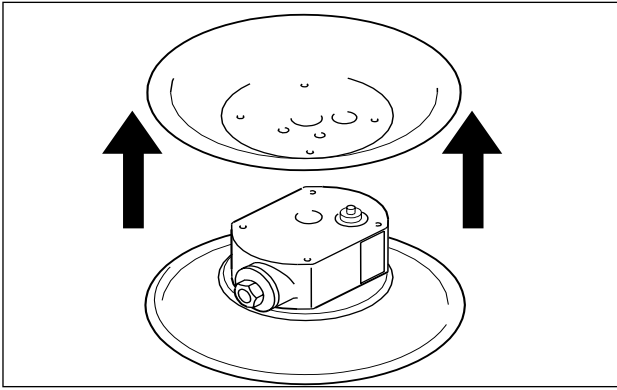

Fig. 12: Disassembling the air chambers
- Unscrew the air chambers from the central block (only on metal pumps, exception: DB diaphragm pumps, DH) (Fig. 12).